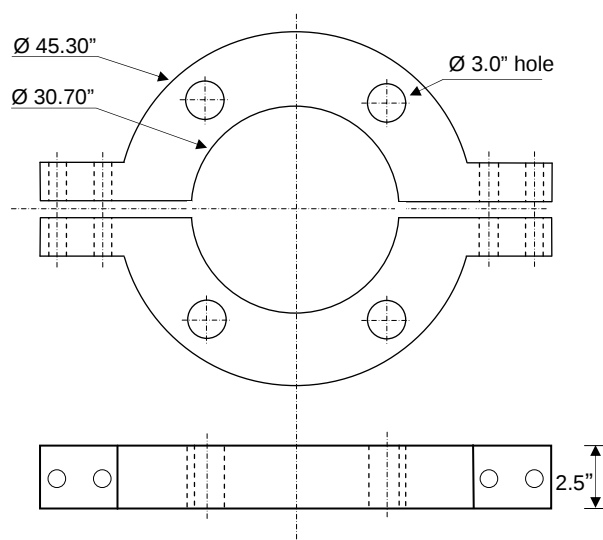

Figure 2-7: Heavy Duty Clamp for Landing 30" C.P. on Ground
- Cut 40" C.P at bottom cellar prior running 30" C.P to allow installing the 30" heavy duty clamp at bottom cellar Figure 2-7.